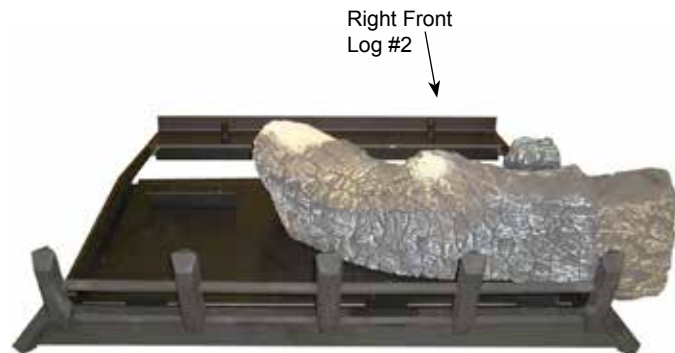

Figure 34
2. Place front right log (#2) on right pin located on burner and right grate bar. *Figure 34*. After placing front right log, ensure log is fully upright and tilting towards the back of the burner.
3. Place right rear log (#3) on pin located on rear support bracket and rest left side of log on front right log. *Figure 34*. After placing right rear log, ensure log is fully upright and does not tilt forward. Slide #1 log ember chunk back to contact right rear log.